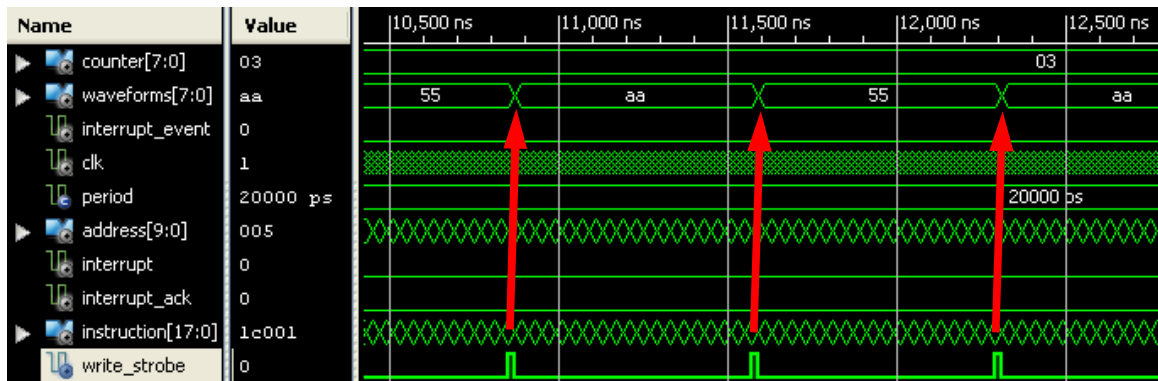

Figure 14. Output Waveform
- 4-2-3. Change simulation run time to 25000ns, add write_strobe signal and re-simulate the design. Analyze the output waveform process (Figure 14).